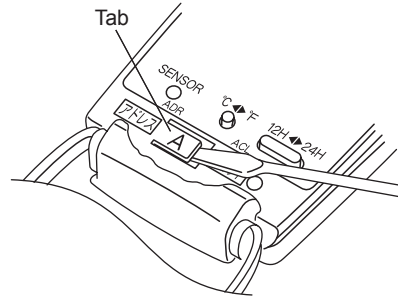

Fig. 13
- (1) Switch on the power source.
- (2) Break the address-setting tab marked "A" on the second remote controller to change the address (Fig. 13). When the tab is removed, the address is automatically set to B (Fig. 14).
- (3) Press and hold the remote controller QUIET button and 1 HR TIMER button. At the same time, press the ACL (reset) button. Use a thin object such as the tip of a pen to press the ACL button. When this has been done, "oP-1" (test run) appears, blinking, in the remote controller clock display area.